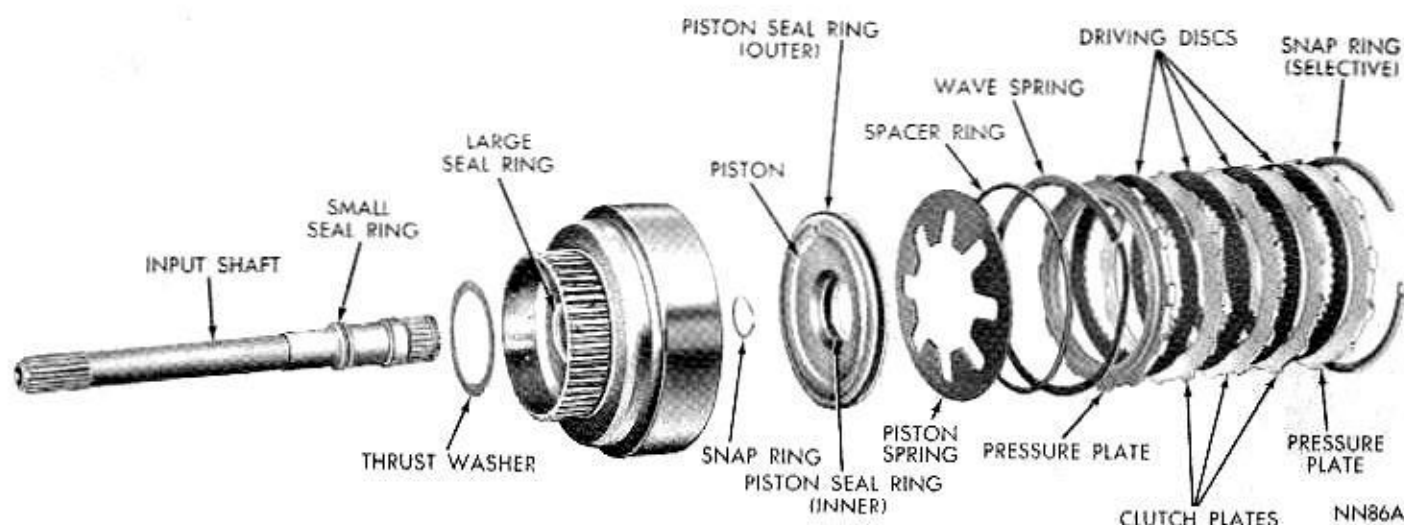

Fig. 65—Rear Clutch Disassembled (A-904)
Figure 65 shows a disassembled view of the rear clutch assembly.
Inspect interlocking seal rings (Fig. 65) on input shaft and piston retainer for wear or broken locks, make sure they turn freely in the grooves. Do not remove rings unless conditions warrant. Inspect rear clutch to front clutch thrust washer for wear. Washer thickness should be .043 to .045 inch, replace if necessary.
(1) If removed, press input shaft into piston retainer and install snap ring.
(2) Lubricate and install inner and outer seal rings on clutch piston. Make sure lip of seals face toward head of clutch retainer, and are properly seated in piston grooves (Fig. 65).
(3) Place piston assembly in retainer and, with a twisting motion, seat piston in bottom of retainer.